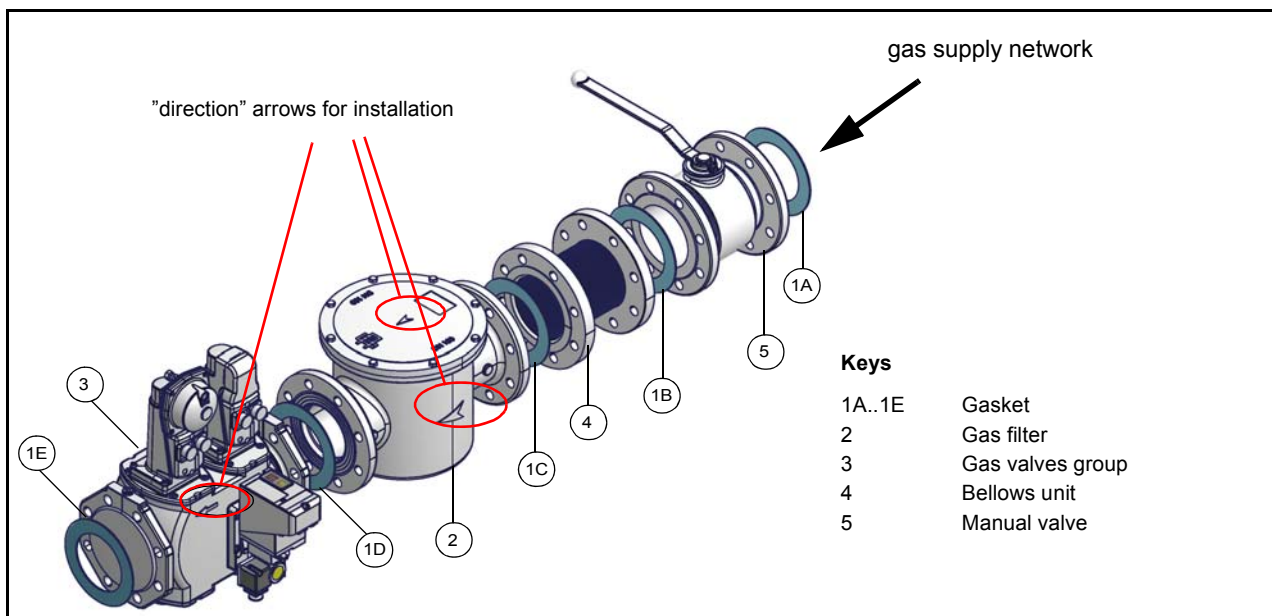

Fig. 6 - Example of gas train
- 1-b) in case of flanged joints: place a gasket (no. 1A..1E - Fig. 6) between the elements
ATTENTION: once the gas train is mounted according to the diagram on Fig. 6, the gas proving test must be performed, according to the procedure set by the laws in force.